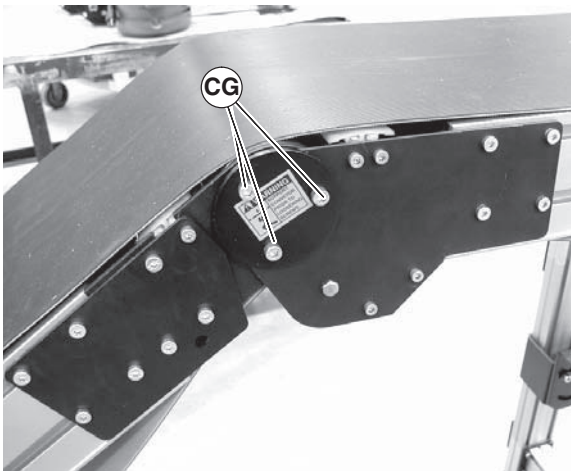

Figure 55
2. Loosen screws (Figure 55, item CG) on both sides of knuckle.
4. Tighten screws (Figure 55, item CG) on both sides of knuckle to 100 in-lbs (12 N-m).